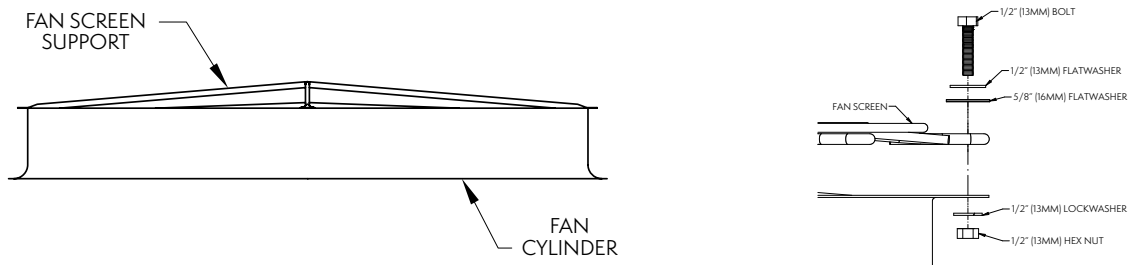

Figure 14 — Fan Screen Support & Fan Screen Installation
1. Set the fan screen support across the top of the fan cylinder as shown in **Figure 14**.
4. At each hole, attach the fan screen to the fan cylinder as shown in **Figure 14**.